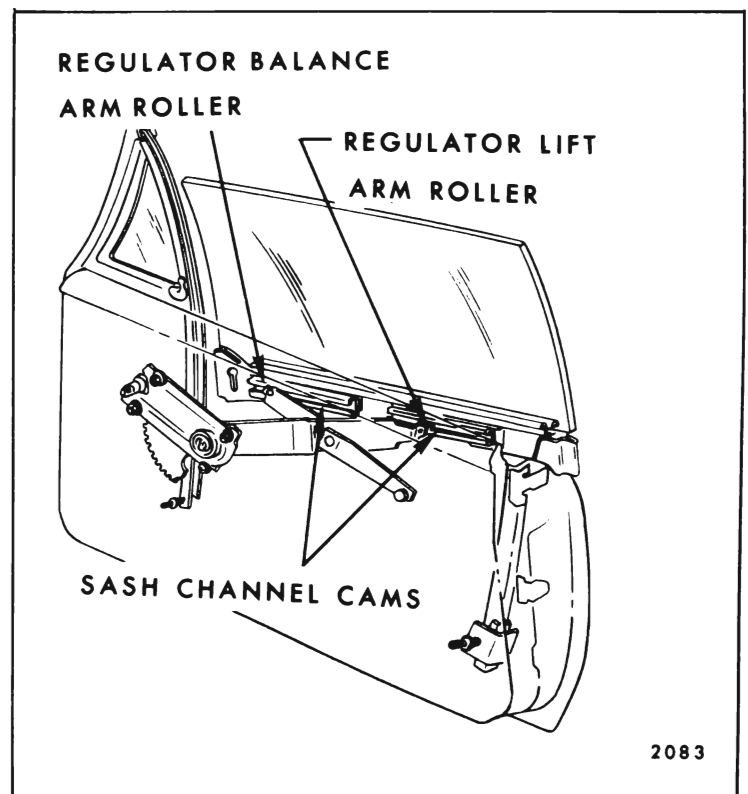

Fig. 7-86—Front Door Window Installation - Buick, Oldsmobile, Pontiac "A-17 and 67" Styles
- b. On Pontiac, Oldsmobile and Buick styles, the regulator lift arm roller is installed into the rear sash channel cam simultaneously with the balance arm roller being installed into the front sash channel cam (see Fig. 7-86).